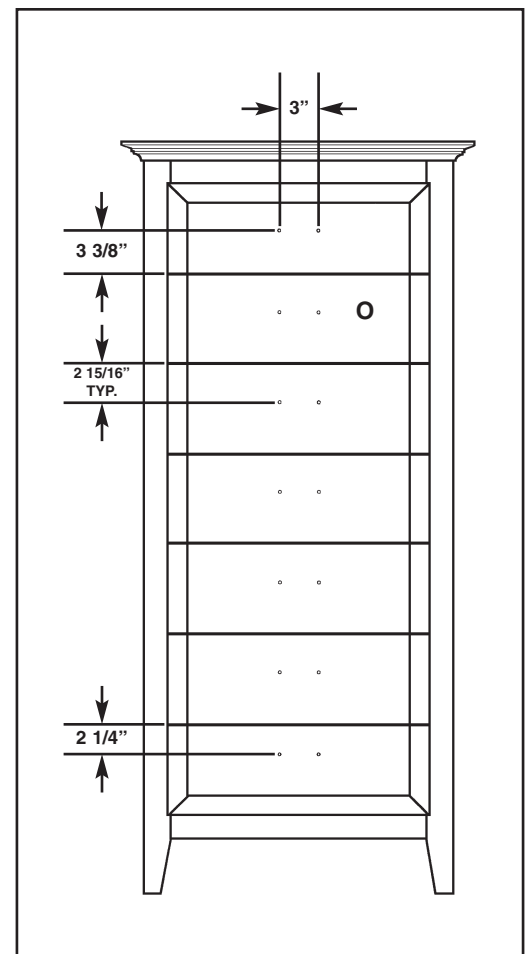

Figure 10
- Install drawer pulls. Refer to Figure 10. Note: measurements given in Figure 10 are consistent with 3" drawer pulls.